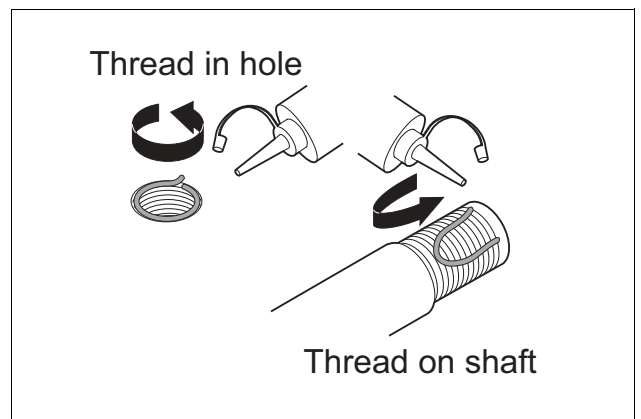

Fig. 24 Applying Loc-Tite 243
- 1 Remove the Socket head cap screw (5), use a 10 mm Allen key.
- 2 Remove the Chain Catcher (4).
- 3 Remove the Rim Sprocket (3).
- 2 Install the new rim sprocket. Make sure that the rim sprocket align with the saw bar, install a shim (2) if necessary.
4. Carefully clean the socket head cap screw (6), and apply Loc-Tite 243 on the thread. *See Fig. 24.*
5. Tighten the cap screw (6), use a 10 mm Allen key.